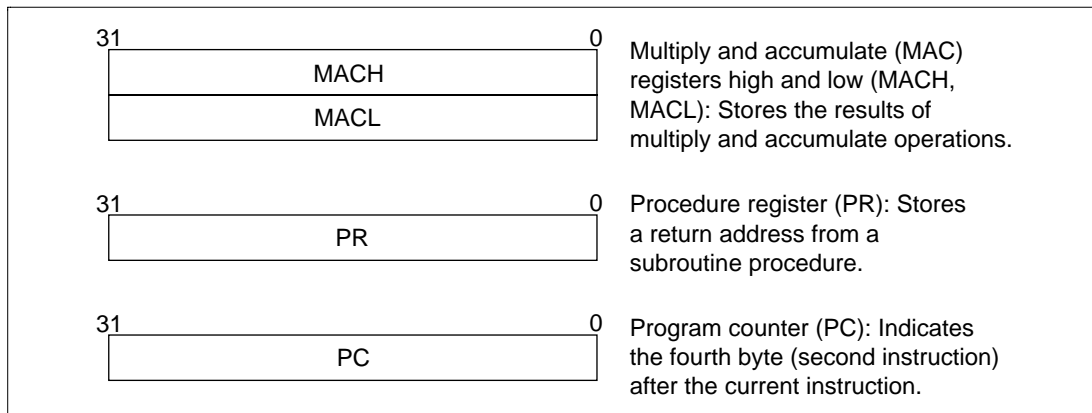

Figure 2.3 System Registers
System registers consist of four 32-bit registers: high and low multiply and accumulate registers (MACH and MACL), the procedure register (PR), and the program counter (PC). The multiply and accumulate registers store the results of multiply and accumulate operations. The procedure register stores the return address from the subroutine procedure. The program counter stores program addresses to control the flow of the processing. Figure 2.3 shows a system register.